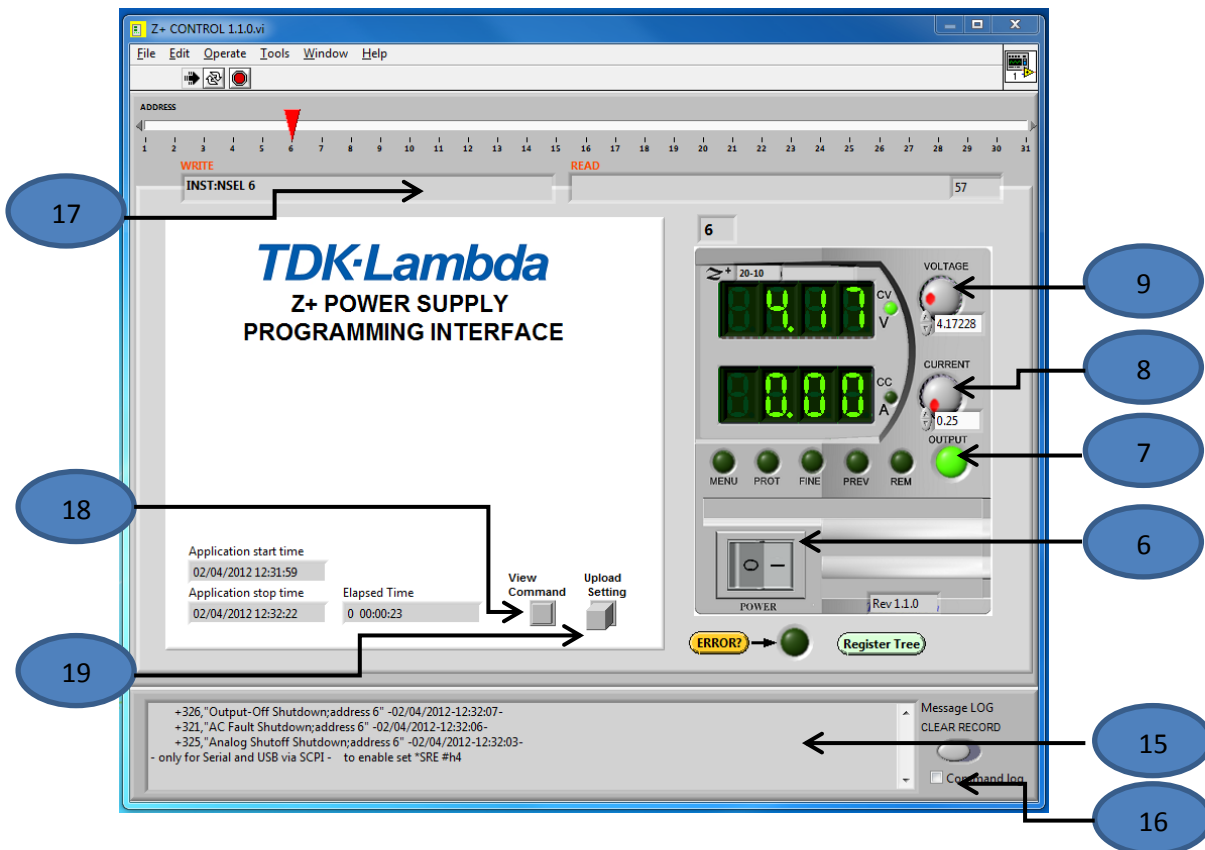
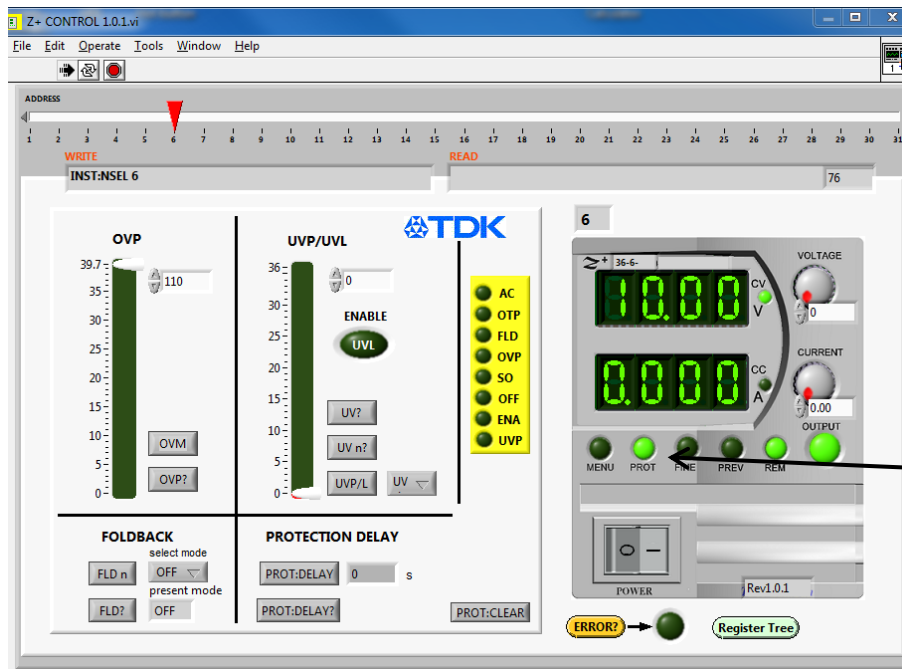

Fig 9
Fig 10
4. Switch ON Power switch (6). Refer to Fig 9.
5. Press OUTPUT button (7) to enable / disable power supply output.
6. Change Voltage and Current settings by voltage (9) and current (8) encoders.
7. Press PROT LED/Button (10) for protection setting. To return - press button again. Refer to Fig 10.
8. Message Log (15). Shows all faults, errors and warnings (command if (16) selected) occurred during operation. This section is only applicable for SCPI via serial and USB interfaces.
9. View command button (18) to show/hide command row (17).
10. Update setting (19) functions refresh all application controls and indicator settings according to PSU state.
14. To STOP the application, set power switch (6) to the OFF position. Refer to Fig 9